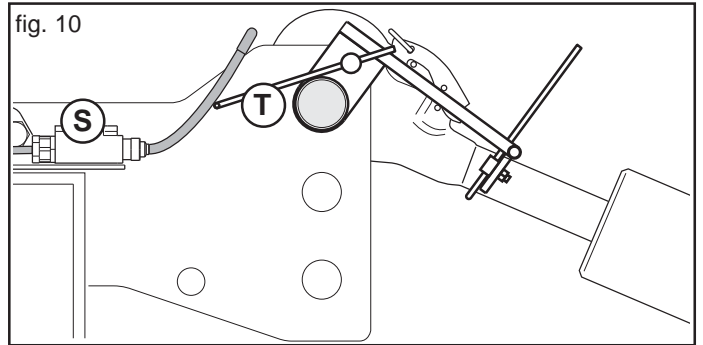

fig. 10
After installation, lift the equipment and check that the switch rod (S) is subjected to stress (Fig. 10).